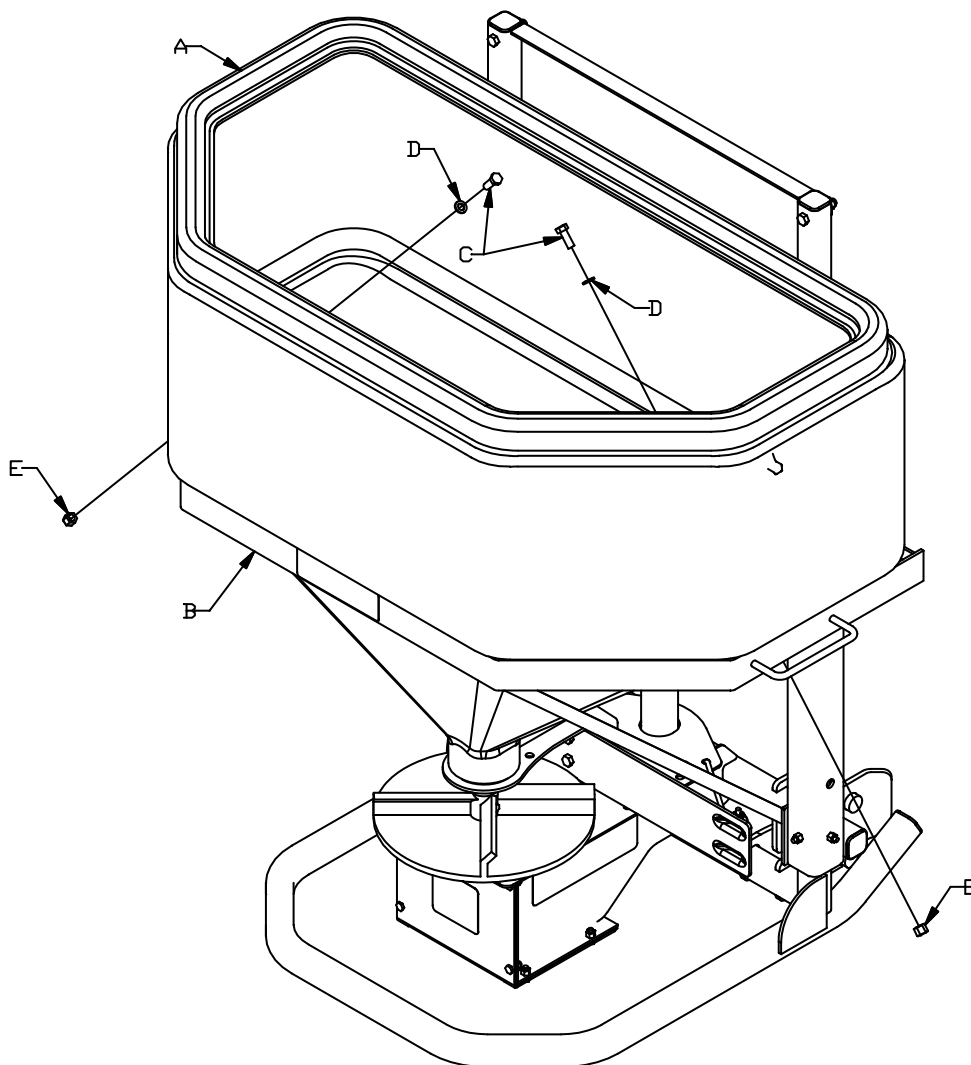

Figure 2. Removal of Tailgate Spreader Hopper
1. Remove Hopper (A) from Tailgate Spreader Frame (B) by removing two 3/8"-16 Hex Head Bolts (C), 3/8" Flat Washers (D), and 3/8"-16 Nylon Lock Nuts (E) holding the hopper to Frame (B). Refer to Figure 2. Retain all hardware.
6. Re-assemble Hopper (A) to Spreader Frame (B) using the same hardware removed in Step 1. Refer to Figure 2. The installation is now complete.